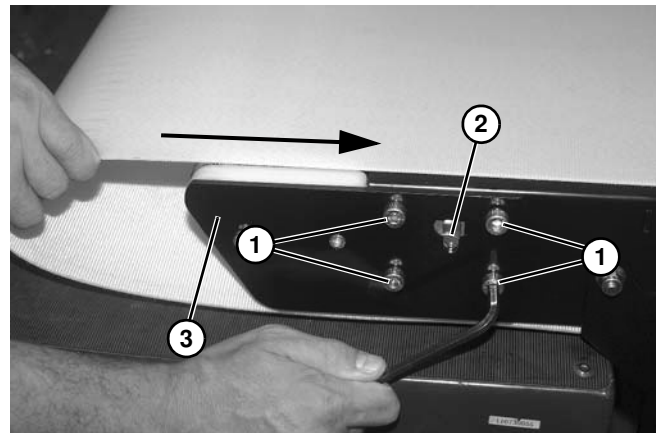
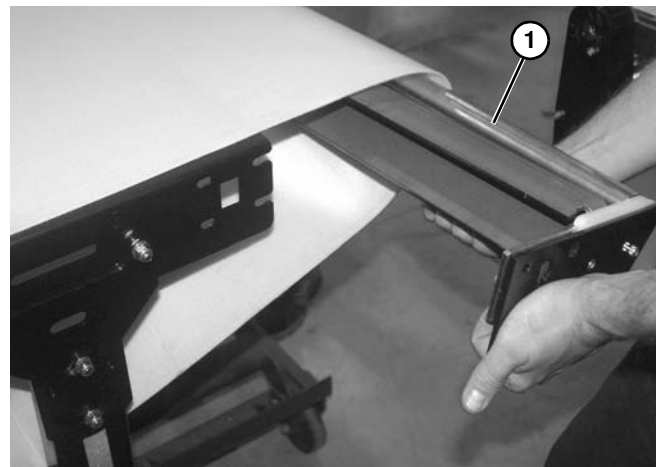

Figure 131
Figure 132
5. On opposite end of conveyor, loosen four screws (**Figure 131, item 1**), and rotate tracking cam screw (**Figure 131, item 2**) to move nose bar tail (**Figure 131, item 3**) inward.
6. Remove four screws (**Figure 131, item 1**) and tracking cam (**Figure 131, item 2**), and remove nose bar tail (**Figure 132, item 1**) from conveyor.